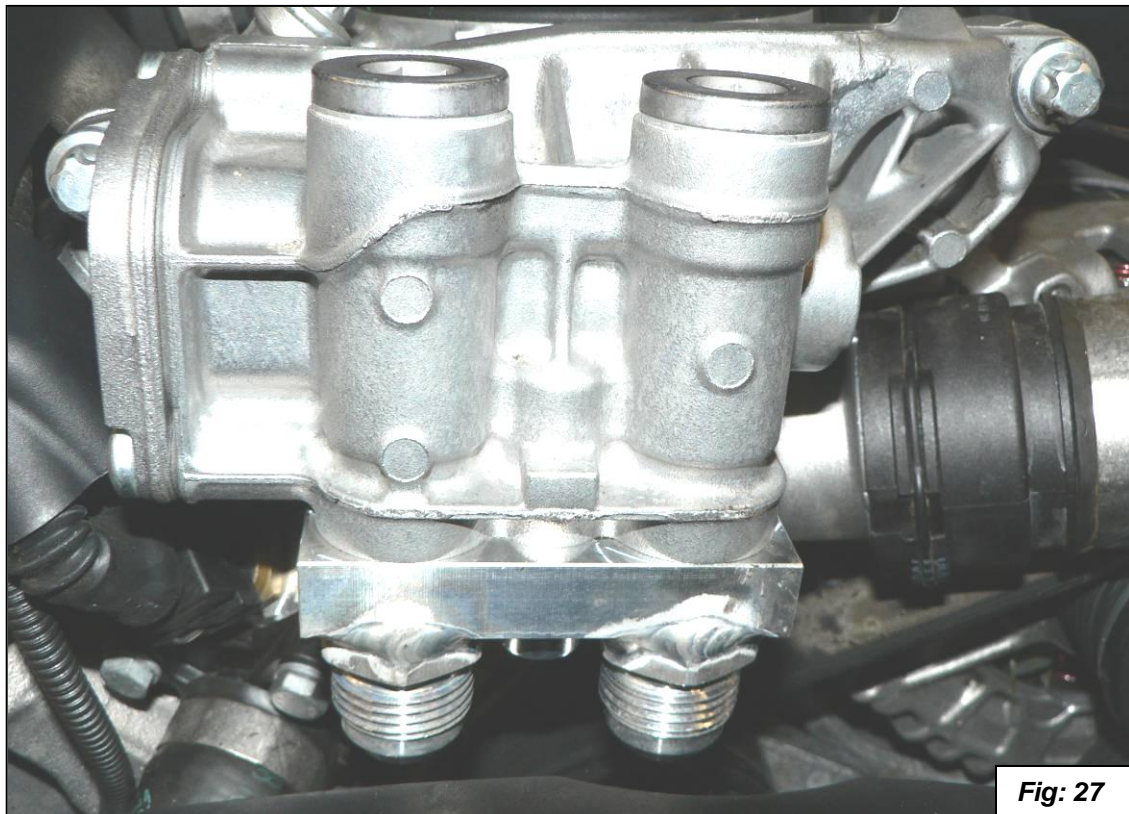

Fig: 27
27. Install the oil line adapter block onto the oil filter thermostat housing. Make sure the O-Rings don't get pinched as you install the block. Torque the bolt to 20Nm (15ft-lbs.). See figure 27.